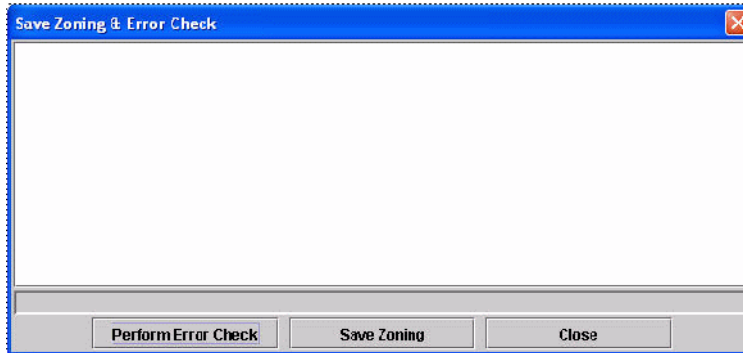

Figure 7-58 Save Zoning & Error Check window
18. From the Save Zoning and Error Check dialog box (Figure 7-58 on page 217), select **Perform Error Check**.